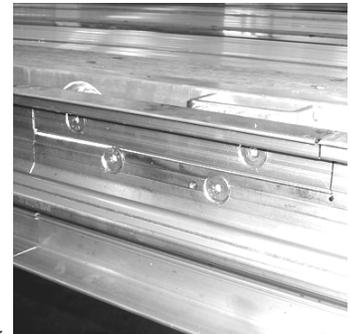

Figure 16
23) See Figure 16. Install the upper inspection plate onto the rub rail by drilling 1/2" holes into the plate and into the rail. Follow Step 11 to install the hardware. The inspection plates must be flush with the rail surfaces after installation. Add shims if needed.